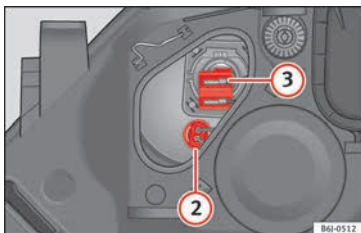

Fig. 98 Side light and main beam headlights.
- Remove connector » **Fig. 98 2** by pulling outward.
- Remove connector » **Fig. 98 3** by pulling outward.